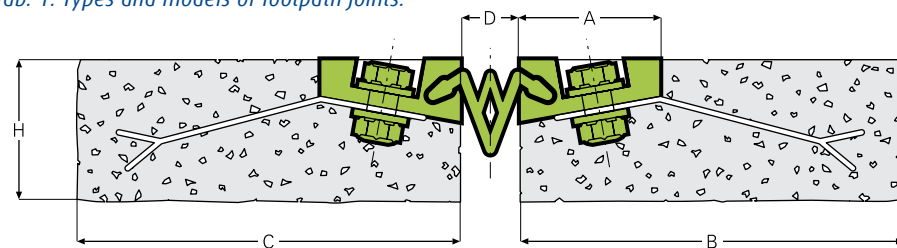

Fig. 1: Footpath joint type T0.
- pavement joints - table 1 and figure 1;